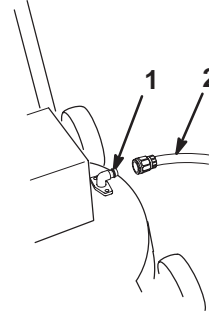

Figure 22
3. Attach the coupling to the lawn mower washout fitting (Fig. 22).